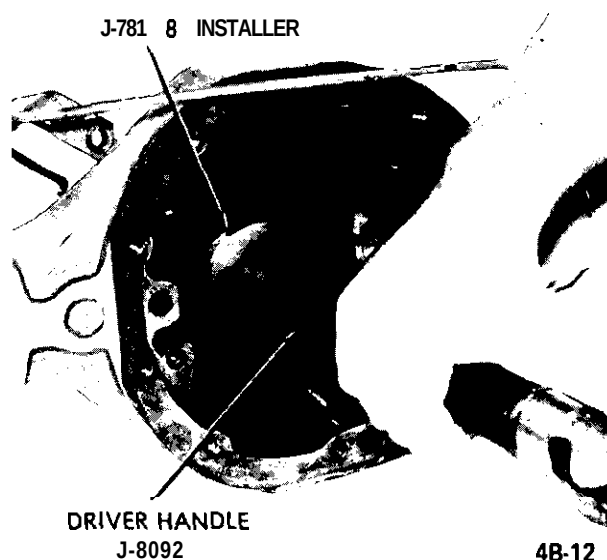

Figure 4B-18 Installing Rear Pinion Bearing Outer Race
6. Install pinion depth shims selected in Step (f) in the rear pinion bearing outer race bore and install the rear pinion bearing outer race using installer J-781 18 and driver handle J-8092. See Figure 4B-18.
I. Install rear pinion bearing onto the pinion using installer J-21022. See Figure 4B-19.